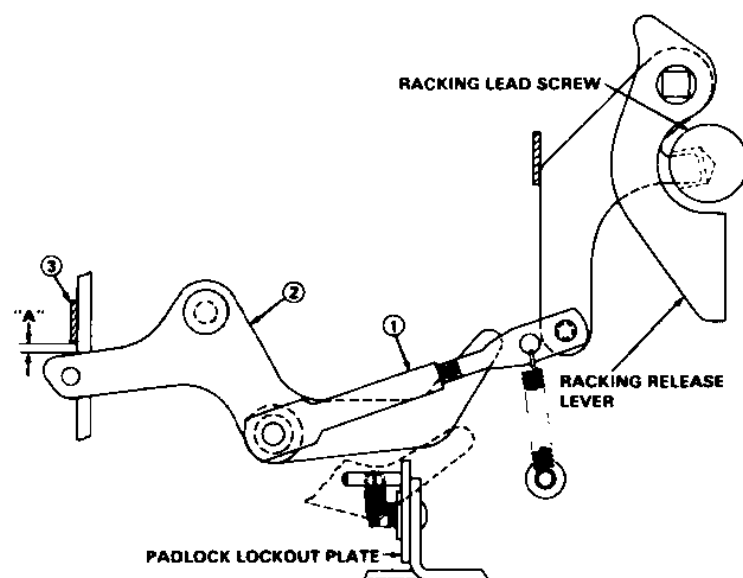

Fig. 7 – Racking Mechanism
5.11 RACKING MECHANISM (See Figure 7)